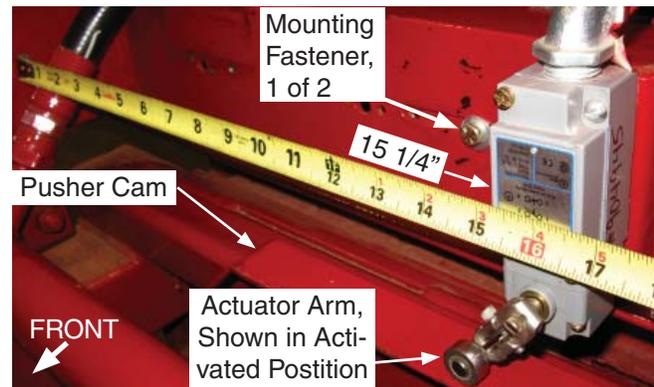

Figure 24 - Limit Switch - 4 Adjustment
1. Adjust the arm so it is pointing straight down. The arm should not be positioned such that it will not bind and bend when contacting the cam surface. This will happen if the roller is adjusted to contact the surface at a perpendicular angle (see Figure 24).